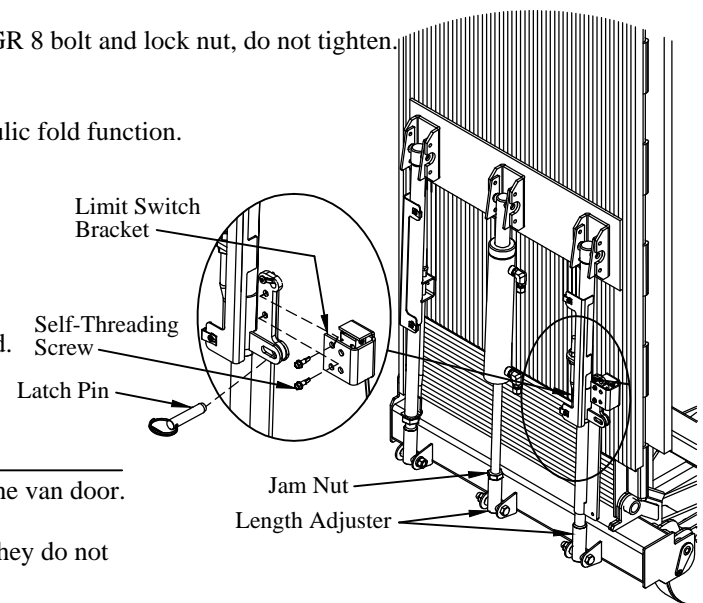

Figure 16: Platform latch and adjustment.
- 4. Install** the limit switch bracket on the passenger side support arm with two (2) #12 self-threading screws. See Figure 14 for bracket shipping location. Make sure that the limit switch is not in the pushed position (Figure 16).
- 3. Support** the platform to keep it from falling or hitting the van in the next step (Figure 16).